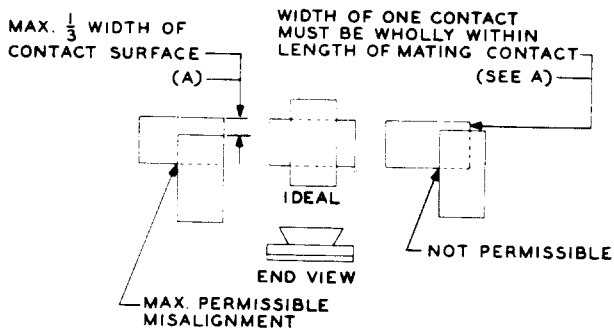

Fig. 11 - Alignment of Heavy Contacts
2.13 Index Finger Position: Fig. 11(A) - The clearance between the index finger and the timer gear, in all positions of the gear, shall be
(b) Fig. 11(A) - On timers equipped with heavy contacts, the contact alignment shall be within the limits indicated in Fig. 11.